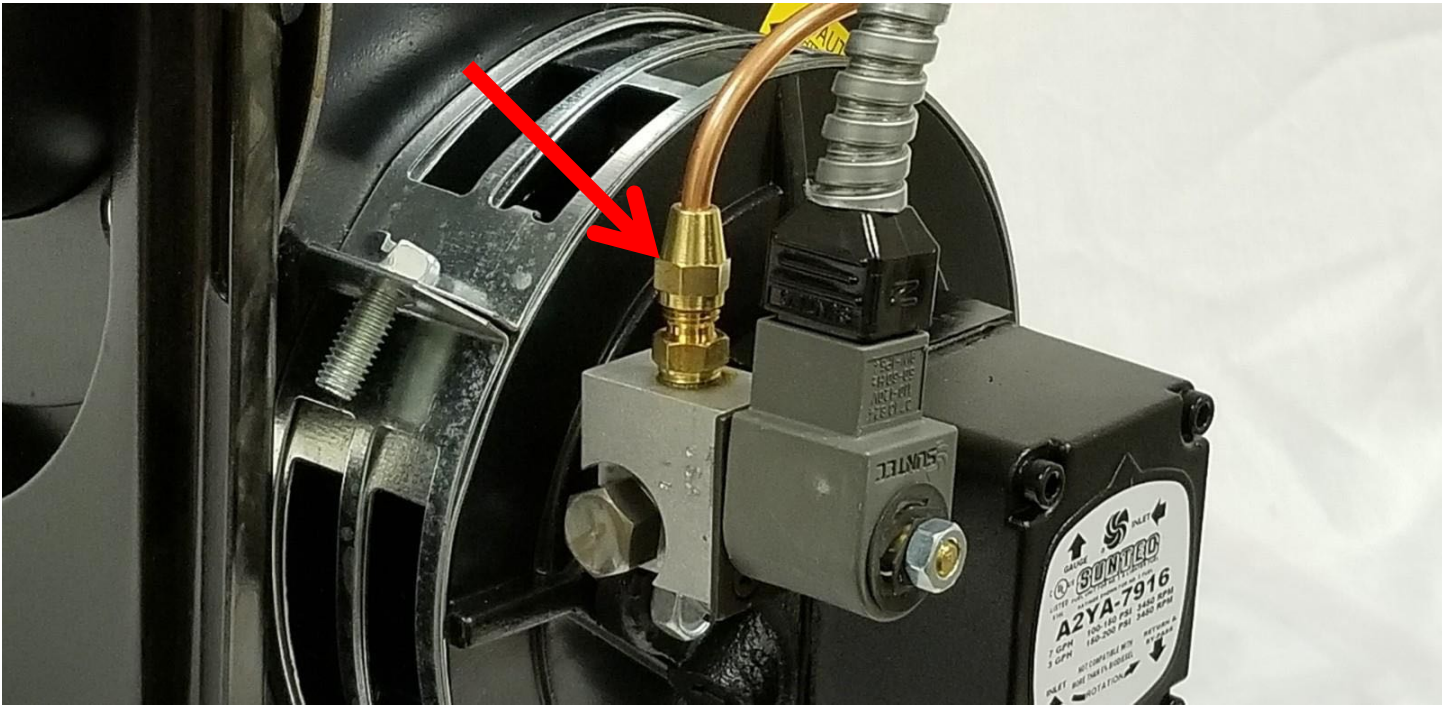

Figure 7 EH/EHASR Oil Line Assembly Fitting
1. Locate the slot plate cover, loosen the brass oil assembly nut with a 7/16 inch wrench at the connection with the brass fitting on the solenoid valve, but do not remove all the way. (Figure 7 on page 23).